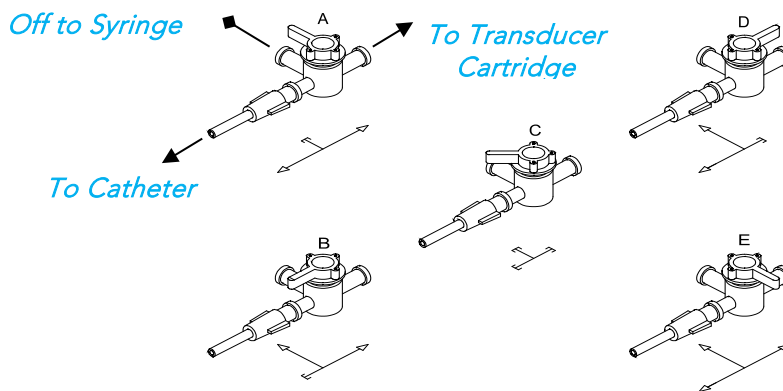

Figure 14: Stopcock Flow Directions
5. By turning the stopcock lever in appropriate directions, flush fluid from syringe through both the pressure cartridge and the pressure measurement tubing. Refer to Figure 14: Stopcock Flow Directions.
3. Turn the stopcock "OFF" to the catheter (See Figure 14, Option B).
5. Turn the stopcock "OFF" towards the Luer lock plug (See Figure 14, Option D).
7. Turn the stopcock "OFF" towards the syringe for pressure recording (See Figure 14, Option A).
Each option in Figure 14 indicates a stopcock position; arrows indicate lumens open to flow based on stopcock position while squared off arrows indicate off position.